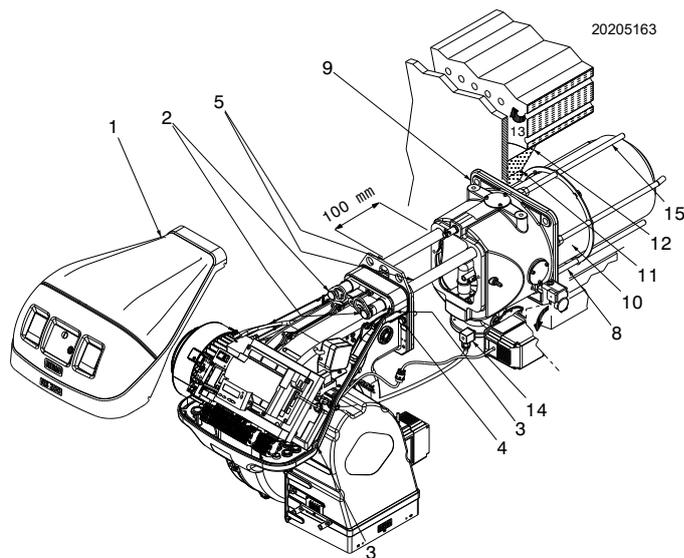

Fig. 17
For boilers with front flue passes 13)(Fig. 17), a protection in refractory material 11) must be inserted between the boiler fettling 12) and the blast tube 11).
For boilers with a water-cooled front piece, a refractory lining 11)-12)(Fig. 17) is not necessary, unless expressly requested by the boiler manufacturer.
Divide the combustion head from the rest of the burner, as shown in Fig. 17; you have to:
Pay particularly attention to the external gas pipes 15 (Fig. 17) during the burner fixing to the boiler in order to avoid to damage them.
- reassemble the burner on the slide bars 3) at about 100 mm from the pipe coupling 4) burner in the position shown in Fig. 17 on page 22;